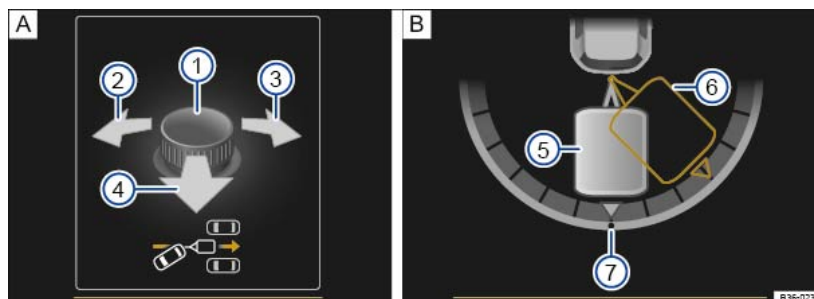

Fig. 161 Operating the trailer manoeuvring system on the instrument cluster display: setting the angle; reversing.
Key to ⇒ Fig. 161 :
- Tilt the rotary knob until the desired direction is reached. A representation of the current position of the vehicle and trailer is shown on the instrument cluster display for orientation purposes ⇒ Fig. 161 **B**.